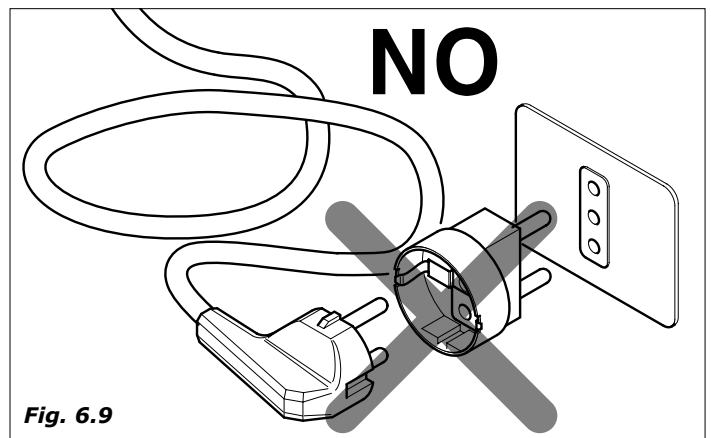

Fig. 6.9
- The sockets that are not compatible with that of the machine must be replaced. (Fig.6.9).